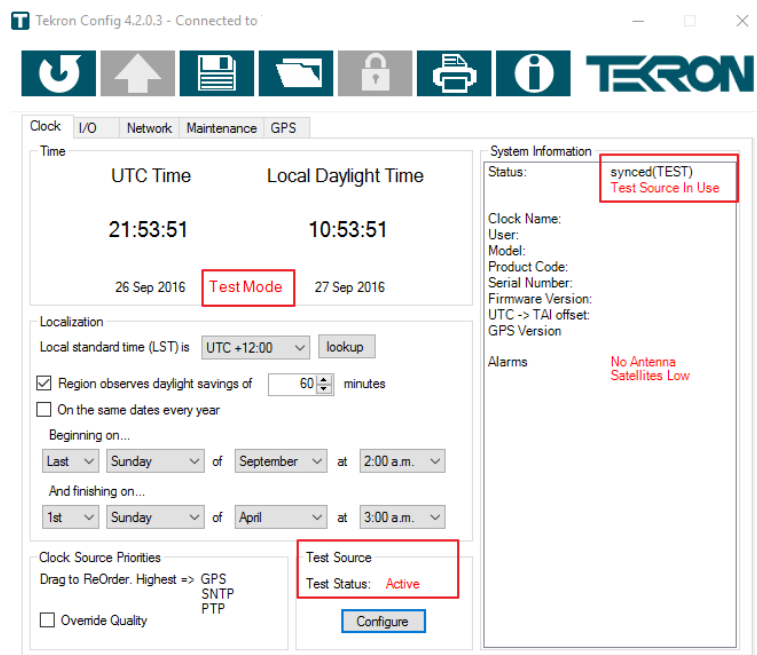

Figure 2. The Clock tab of the configuration tool when a clock is in test mode
4. Press Set, the configuration tool will change to match Figure 2